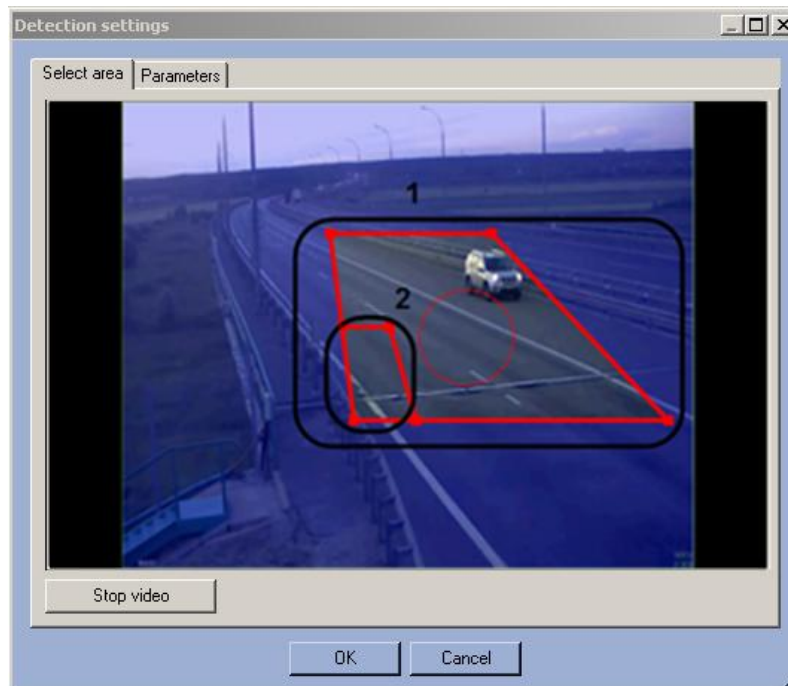

Fig. 6.3—5 Specify the analyzed area
- 3.3. Set the required size, shape and position of the analyzed area (Fig. 6.3—5, **1**). To rotate the area, use the board dragging. To drag the area on the frame use the circle dotted line. To change the area size, use the grid points marked squares. The minimal height and size of the smallest base of trapezoid is 0.05 of the frame height.